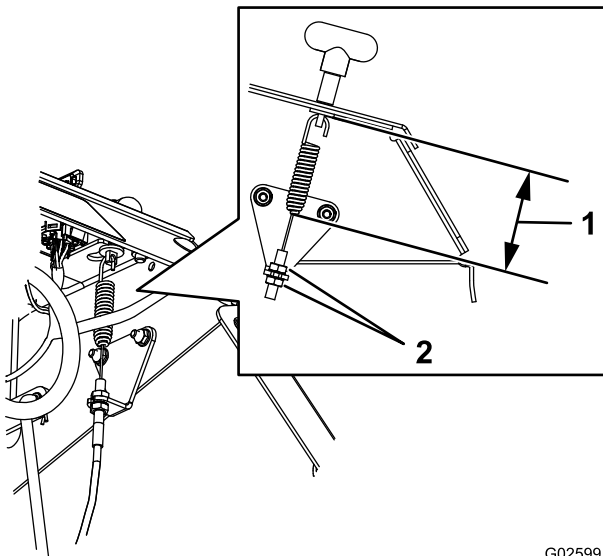

Figure 48
4. Loosen the jam nut on the brake cable under the console (Figure 48).
5. Set the parking brake (Figure 48).
6. Adjust the jam nut position until 7.9 cm (3-1/8 inch) from the bottom of the link to the bottom of the spring (Figure 48).
7. Secure the adjustment of the cable by tightening the jam nuts (Figure 48).